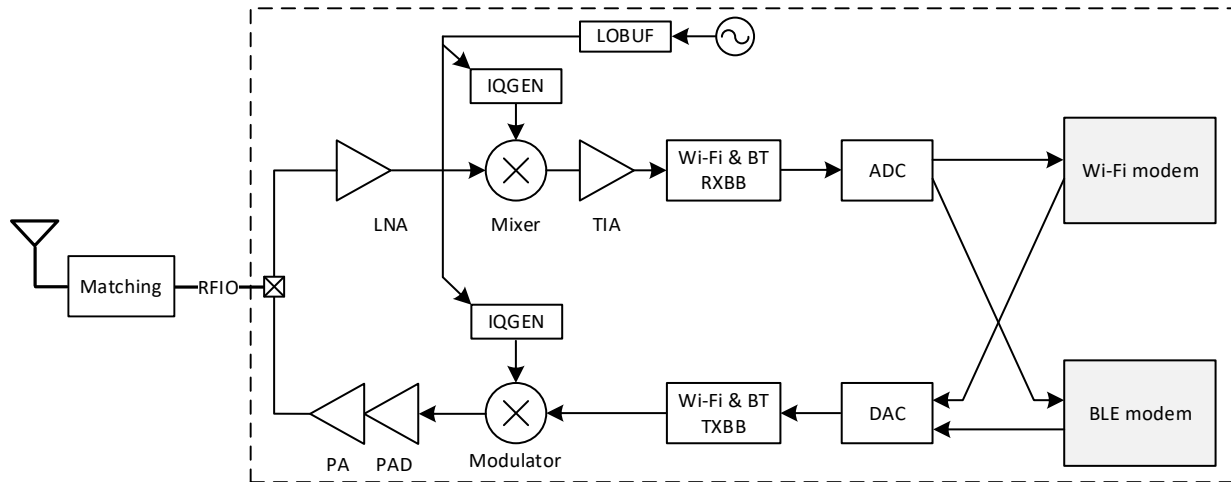

Figure 3-6 RF block diagram
The Radio Frequency (RF) block diagram of RTL8720EA, including WLAN and BLE modem, is given in Figure 3-6.